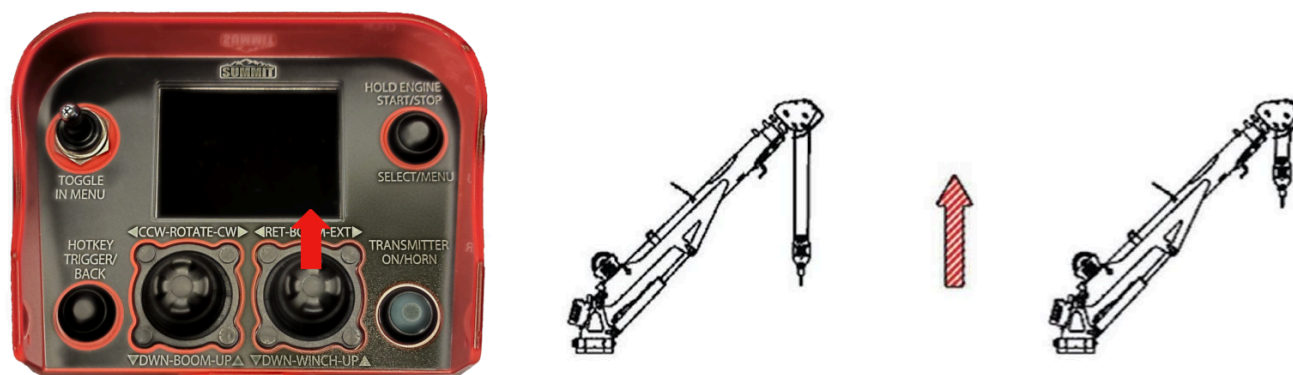

Figure 2-54.
7. Press the right joystick up to raise the winch (see Figure 2-54).